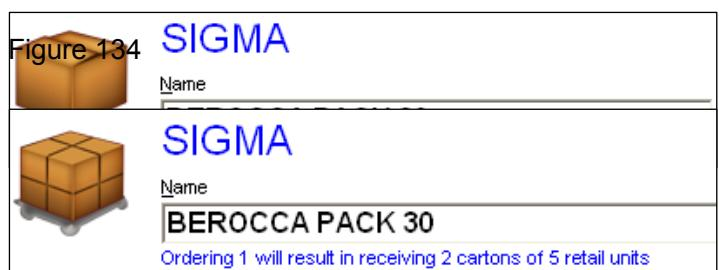

Figure 135
- Cartons with Multiple Order Quantity (Figure 135)